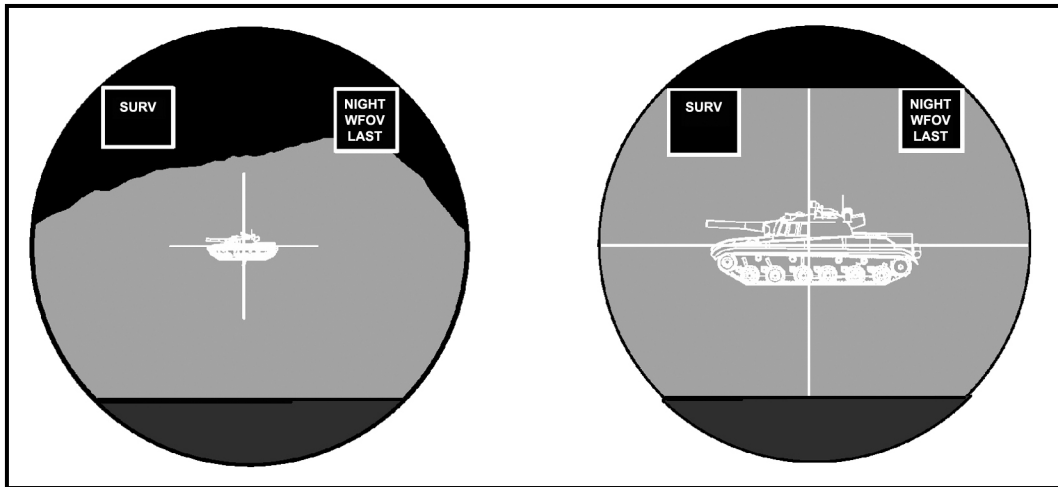

Figure 1-15. ITAS NVS fields of view.
(1) **Night Vision Sight (NVS).** The NVS allows the gunner to view the target area in wide (4x) or narrow (12x) fields of view. (Figure 1-15 shows examples of the difference between these fields of view.)